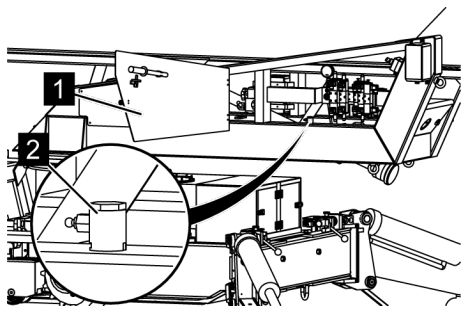

Fig. 127: Slide coupling
3. ➔ Remove the door (Fig. 127/1) and remove the slide coupling (Fig. 127/2).